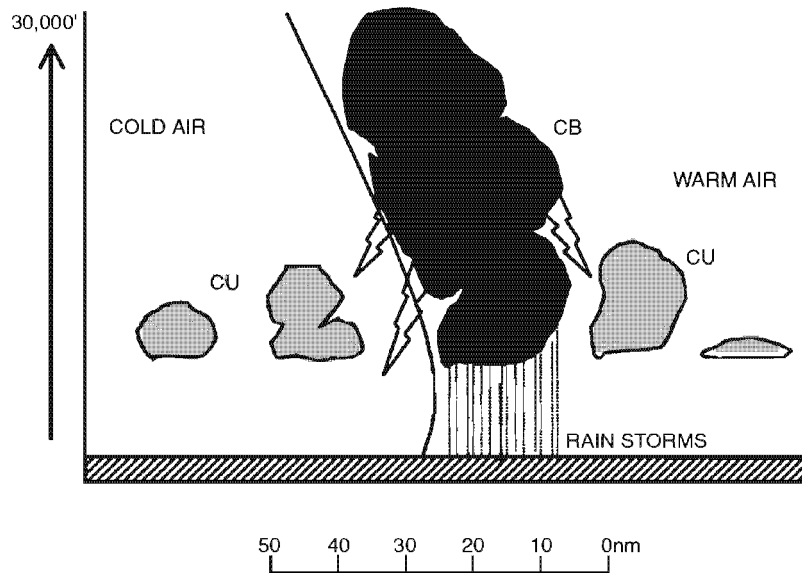

Figure 8.12 Cross section of a cold front.
**Describe the characteristics and weather common to the passage of a cold front.***(See Figure 8.12.)*